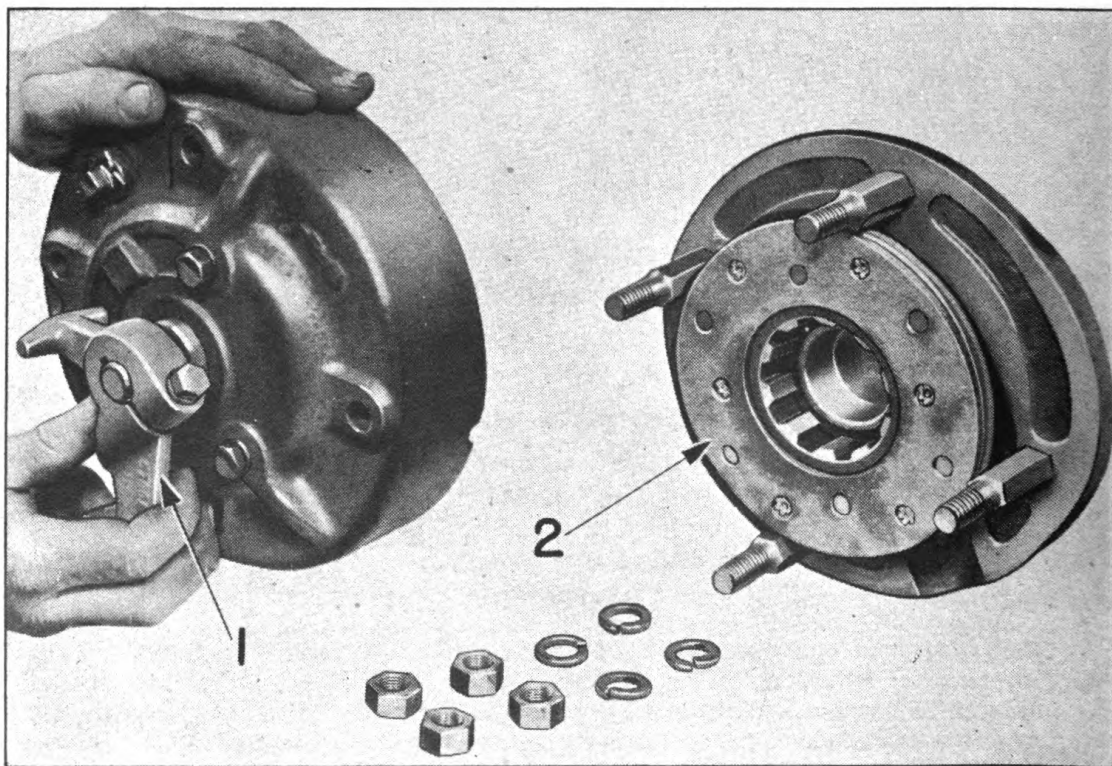

Fig. 87. Removing Brake to Replace Middle Ring
2. On the outside of the brake housing are three cap screws (1), Fig. 87. Loosen each of these screws several turns.
3. Turn the adjusting pinion (2) clockwise, thereby screwing adjusting ring (3) outward on its threads, and forcing the power plate (4) inward. This action forces the primary disc (5) inward, and decreases clearance at the brake lining (6). Continue to rotate the adjusting pinion (2) until the brake pedal can be depressed by hand about $1\frac{1}{2}$ " to 2". This should leave adequate clearance to assure that the brake will not drag when released.
4. When proper adjustment is secured, depress brake pedal and lock it. Then tighten the three cap screws (1) to lock the internal brake parts in place. It is not necessary to lock adjusting pinion (2) as the adjusting ring with